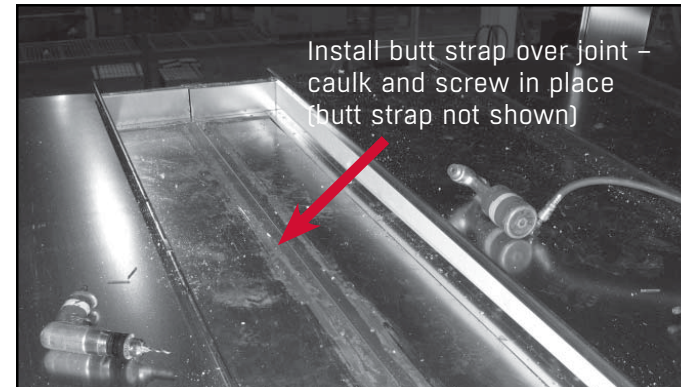

FIGURE 8.
- 15)** Apply polyurethane caulk along the underside of the roof butt strap and center over the joint between the two modules. Using #12 TEK screws at approximately 12" centers, screw the butt strap to the roof. (See **FIGURE 8**)